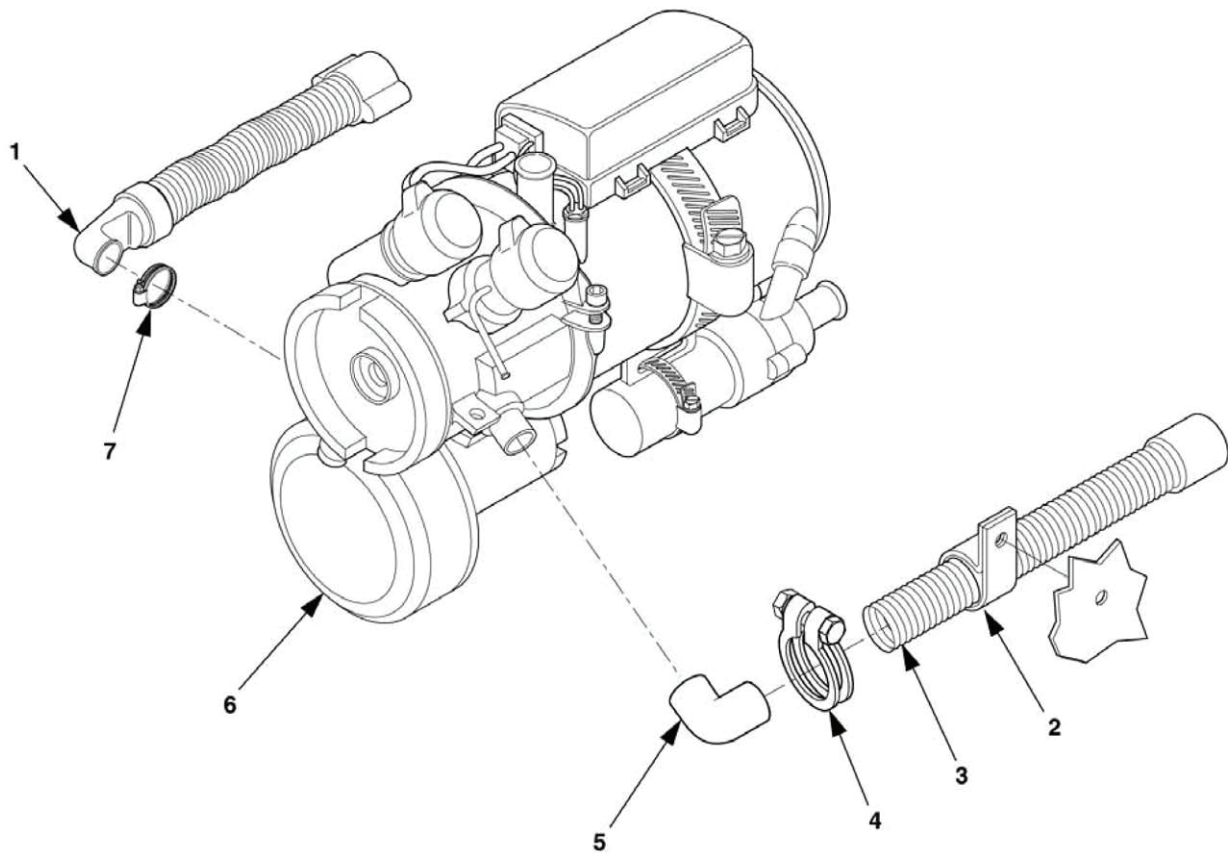

Figure 1. Air Inlet and Exhaust Hose Maintenance.
1. Attach elbow (Figure 1, Item 5), using RTV (high heat sealing compound), to heater exhaust port. Attach air exhaust hose (3) to elbow (5) with screw clamp (4).
2. Install exhaust hose (3) through clamp (2) and secure. Guide exhaust hose (3) through hole in bulkhead and secure with RTV (high heat sealing compound).
3. Attach air inlet hose (1) to heater (6) with screw clamp (7).